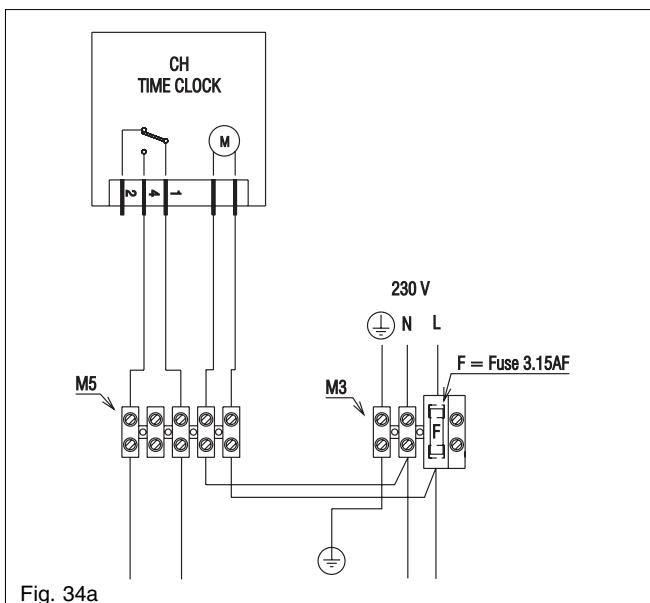

Fig. 34a
- single-channel, voltage-free time clocks (fig. 34a)